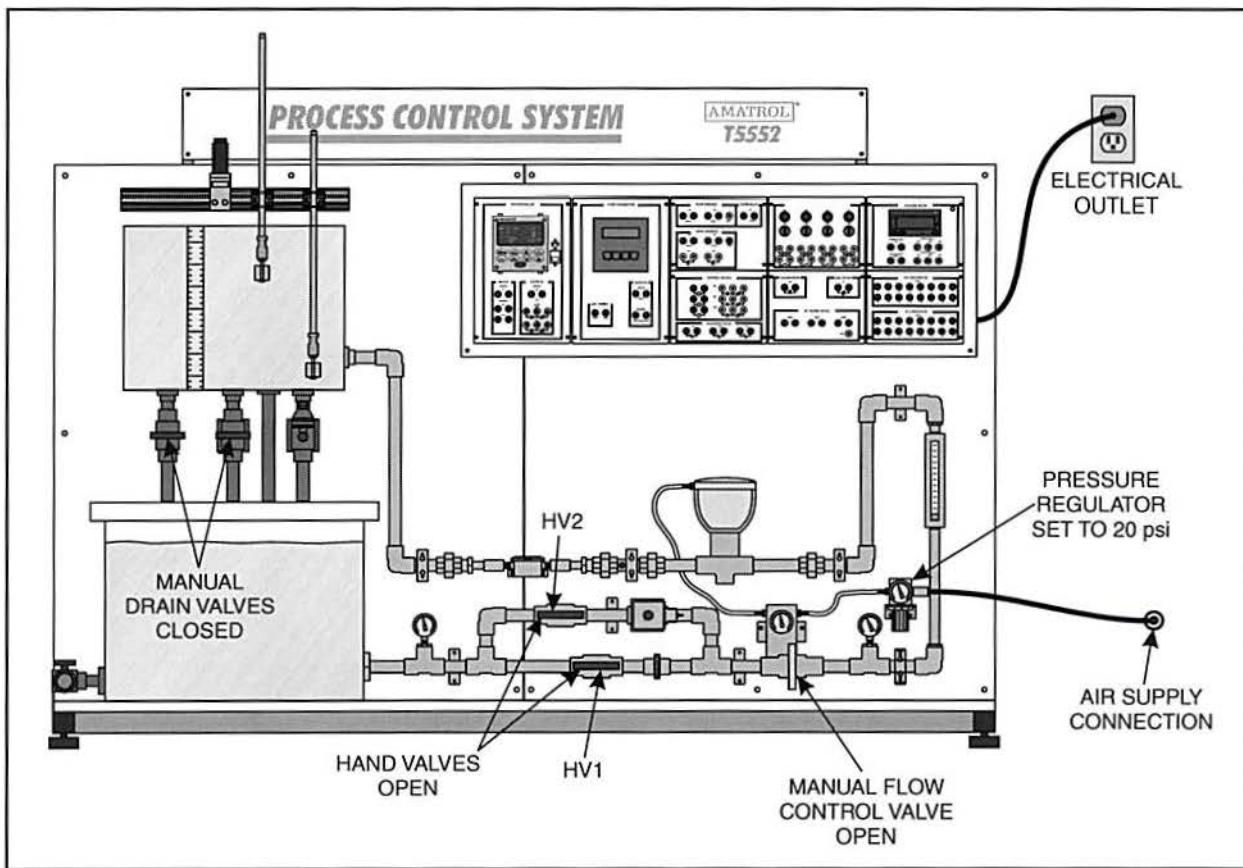

Figure 46. T5552 Set Up
- 2. Perform the following substeps to set up the T5552, as shown in figure 46.